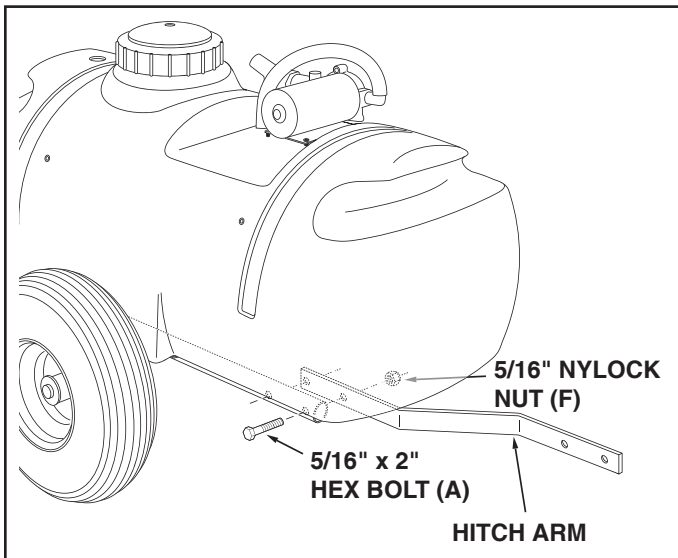

FIGURE 3
STEP 3: (SEE FIGURE 3)
- Assemble a hitch arm to the inside of a frame tube underneath the tank. Use two 5/16" x 2" hex bolts (A) and 5/16" nylock nuts (F). **Do not tighten yet.** Repeat for other side.